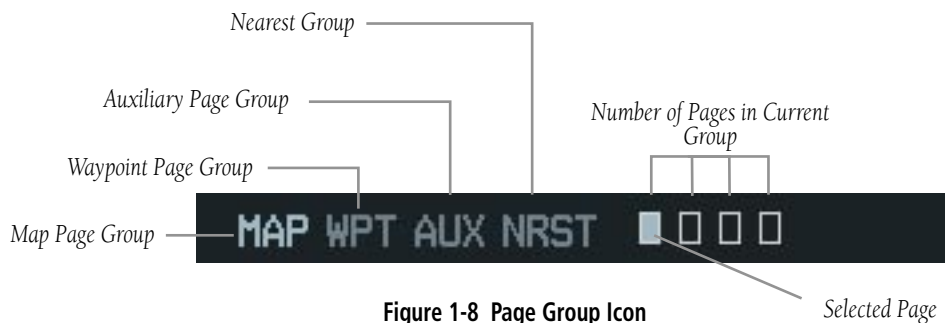

Figure 1-8 Page Group Icon
- 2) Turn the small **FMS** Knob to select pages within the group. See Figure 1-8.